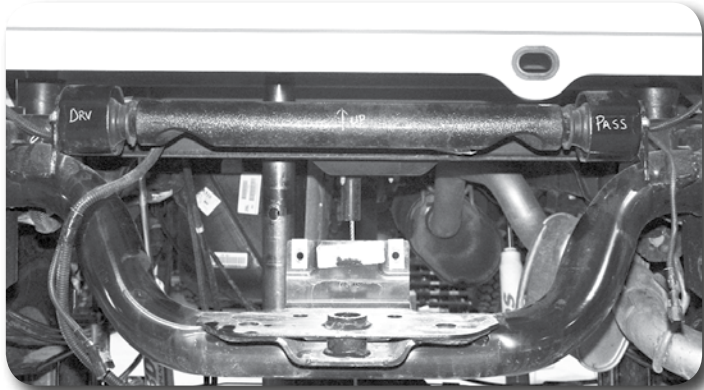

Figure 31a
86. Lift the rear of the bed up to expose the rear frame dampener. Mark the driver's side and passenger's side of the dampener as well as which way is up **Figure 31a**.